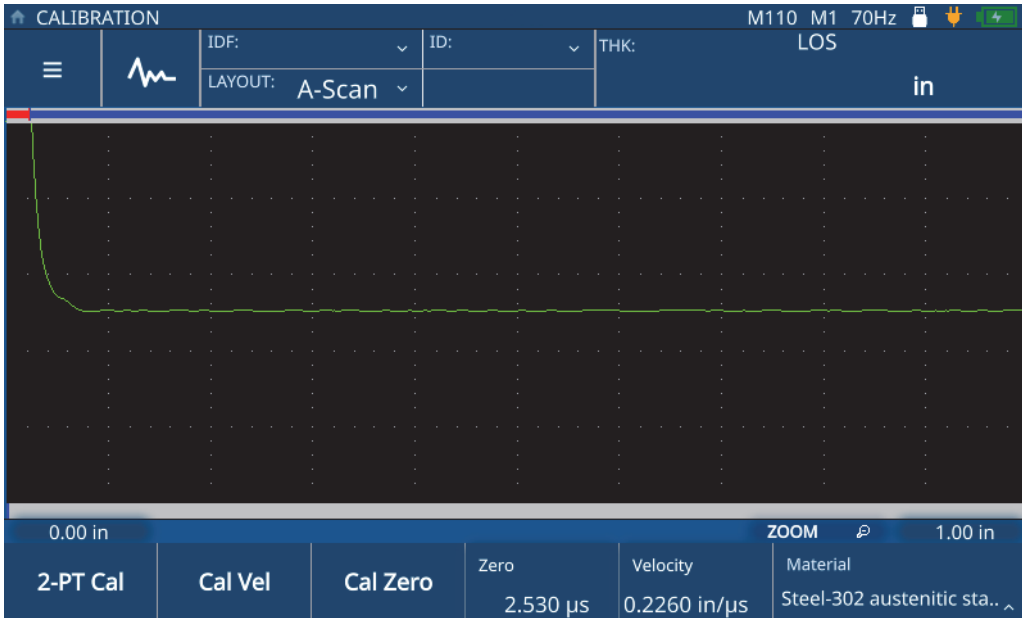

Figure 5-1 Calibration Menu
2. Press the **CAL** button to open the Calibration menu (see Figure 5-1 on page 40).
2. Press the **CAL** button to open the Calibration menu (See Figure 5-1 on page 40).